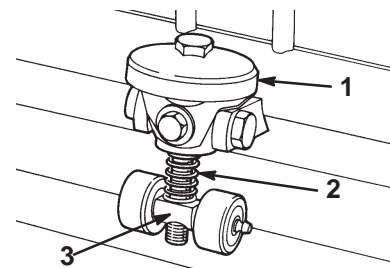

Figure 15
1. Remove the mower from the traction unit and position it on a level work surface. Make sure there is no reel contact by turning the bedknife adjustment knob counterclockwise (Fig. 15).
- On either end of the front side of the reel, insert a long strip of newspaper between the reel and bedknife. While slowly rotating the reel forward, turn the bedknife adjusting knob (Fig. 15) clockwise, one click at a time, until the paper is pinched lightly, which results in a slight drag when paper is pulled.